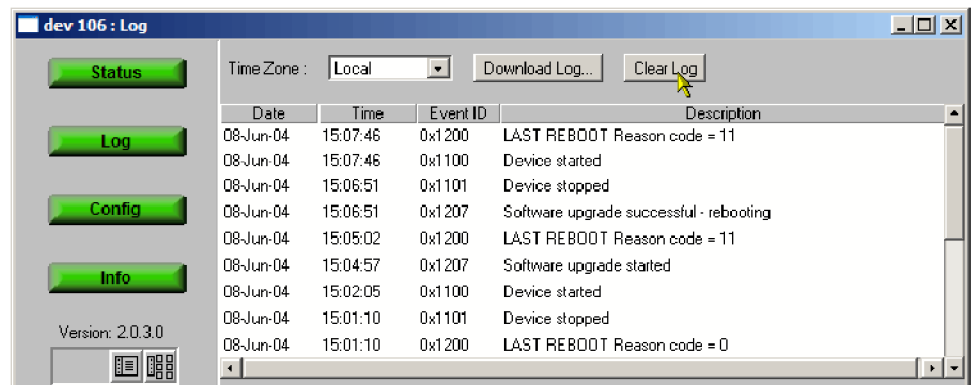

Figure 7: Device Log view (RUI v2.6.1 and below)
1. In the Device view, click **Log** to display the Device Log view. (See Figure 7.)
1. In the Device view, click **Log** to display the Device Log view. (See Figure 7 on page 21.)